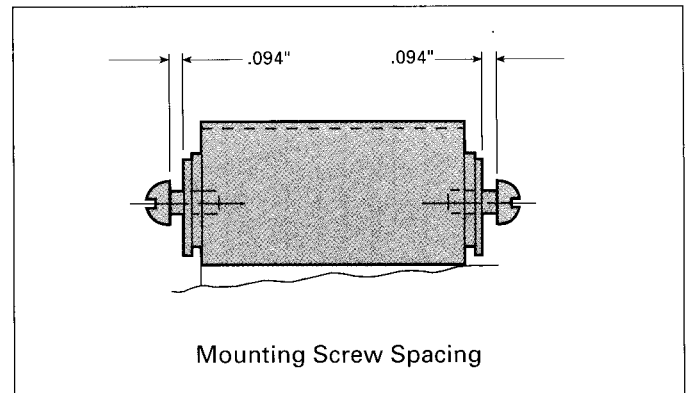

Figure 2
- With a screwdriver, turn the screws so they enter the blind holes molded in each side of the toggle handle. Tighten the two screws evenly so that when they engage the bottom of the blind holes, they project an equal distance of .094" (Figure 2) above the tapped surface. Do not over torque. Maximum torque 2 in-lbs.